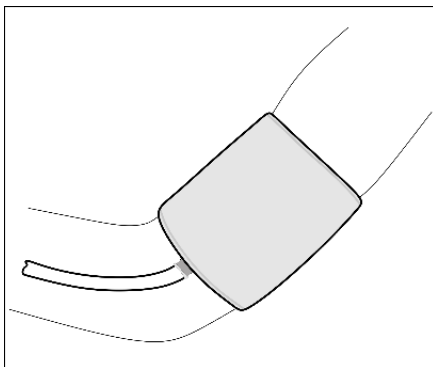

Figure 8: Applying the Cuff
- The cuff tubing points down, see Figure 8.